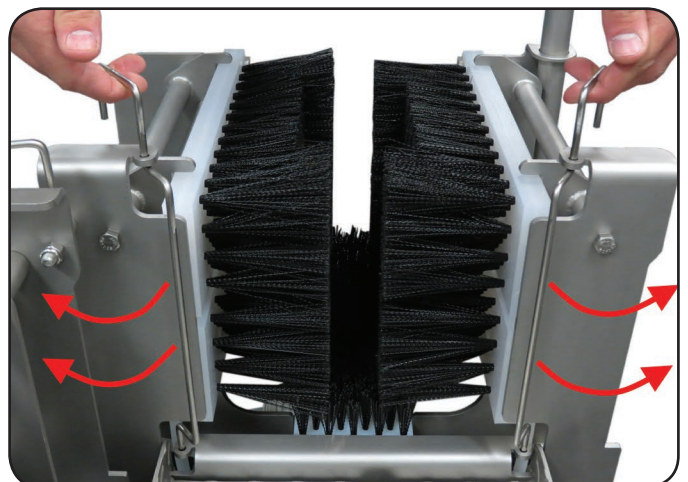

Figure 11
2. To remove the brushes, pull up on the clip and rotate towards the rear of the unit (Figure 11).